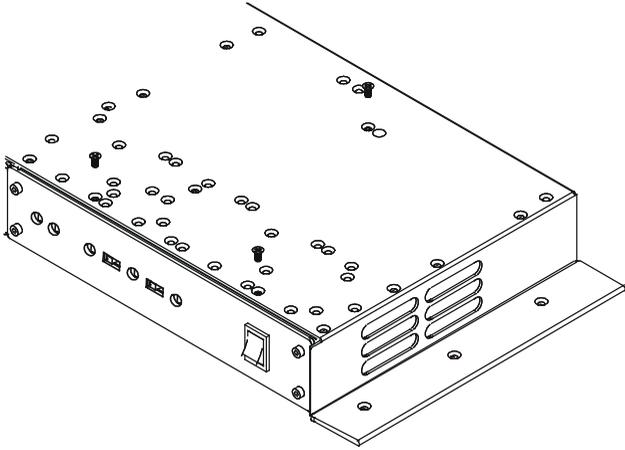

Figure 3: RK-1UTB Under the Table Enclosure – Underside
3. Insert the appropriate amount of screws through the holes on the **RK-1UTB** that fit the holes on the underside of the **VP-100A**, using the M3x5 screws supplied with the unit (as illustrated in Figure 3).